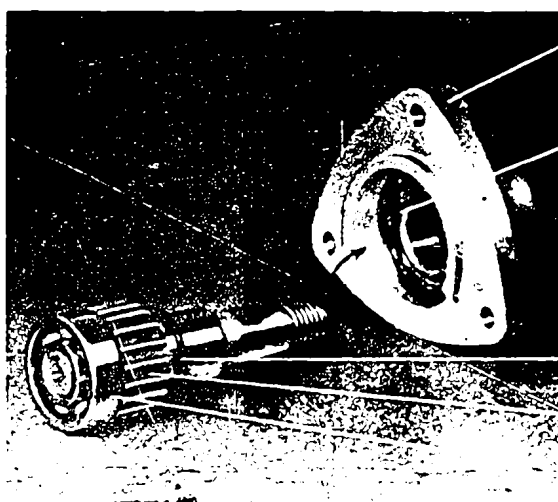

Fig. 27 Governor shaft and bearing cover
23. 5. If the gear on governor shaft (170) is damaged it must be removed. To do this press governor shaft from bearing cover (168) (Fig. 27). Draw deep-groove ball bearing (171) from governor shaft and remove circlip (174). If necessary, remove inner circlip (173) from bearing cover, using suitable circlip pliers, and press out shoulder contact bearing (172).